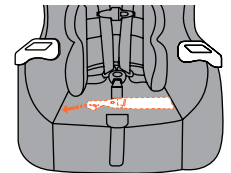

Fig. 28a
- Route **UAS** Lower Connector through the rear facing belt paths and under the seat fabric (Fig. 28a).